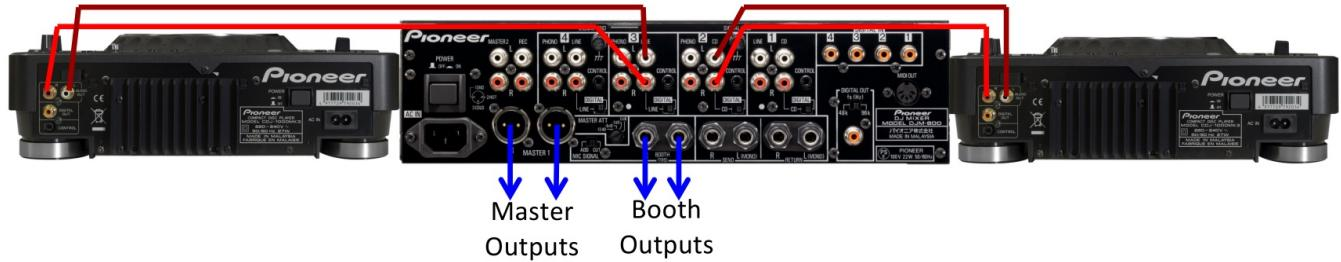

Figure 14: An image of the back panel of the DJM800 with two CDJ1000s, with analogue connections.
- Using analogue connections between the CDJs and mixer, as shown on Figure 14.